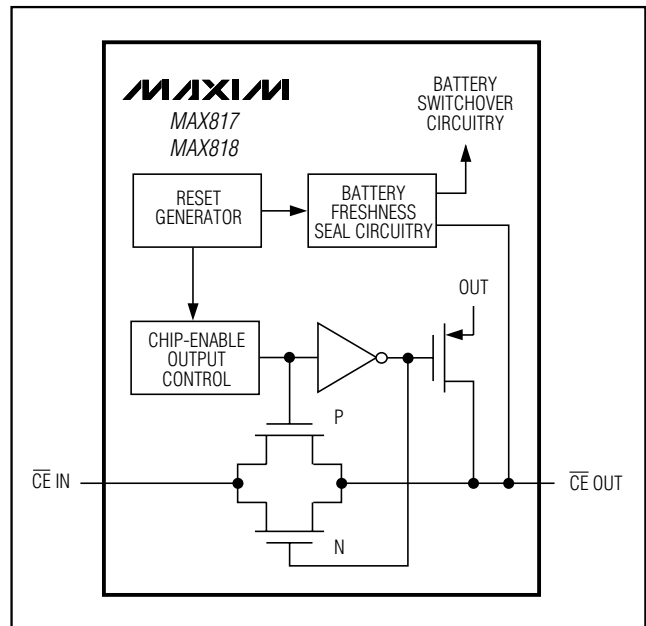

Figure 5. Chip-Enable Transmission Gate
Internal gating of the chip-enable (CE) signal prevents erroneous data from corrupting CMOS RAM in the event of an undervoltage condition. The MAX818 uses a series transmission gate from  $\overline{CE IN}$  to  $\overline{CE OUT}$  (Figure 5). During normal operation (reset not asserted), the CE transmission gate is enabled and passes all CE transitions. When reset is asserted, this path becomes disabled, preventing erroneous data from corrupting the CMOS RAM. The short CE propagation delay from  $\overline{CE IN}$  to  $\overline{CE OUT}$  enables the MAX818 to be used with most  $\mu P$ s. If  $\overline{CE IN}$  is low when reset asserts,  $\overline{CE OUT}$  remains low for typically 15 $\mu s$  to permit the current write cycle to complete.
When the CE transmission gate is enabled, the impedance of  $\overline{\text{CE}} \text{ OUT}$  is equivalent to a  $40\Omega$  resistor in series with the source driving  $\overline{\text{CE}} \text{ IN}$ . In the disabled mode, the transmission gate is off and an active pull-up connects  $\overline{\text{CE}} \text{ OUT}$  to OUT (Figure 5). This pull-up turns off when the transmission gate is enabled.